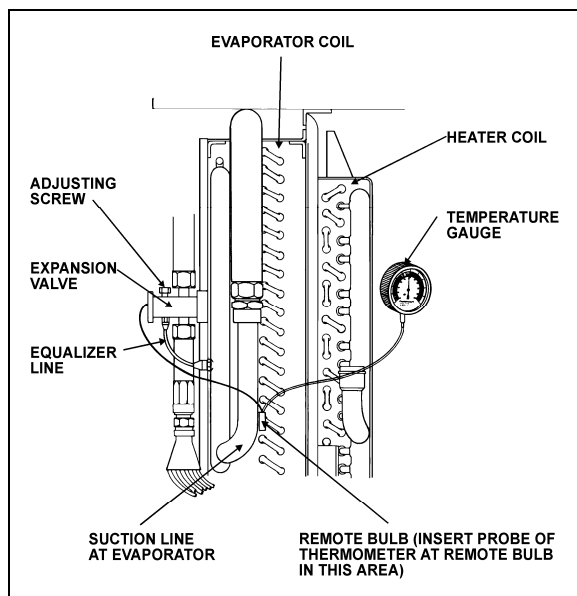

FIGURE 33: SUPERHEAT ADJUSTMENT INSTALLATION 22046
The starting method of adjusting the superheat is to unscrew completely the main evaporator expansion valve adjusting screw, then screw in 13 turns clockwise for 134A (Fig. 33). Afterwards, the following procedure should be followed:
3. Install a remote reading thermometer to the evaporator outlet line near the existing remote bulb (Fig. 33).